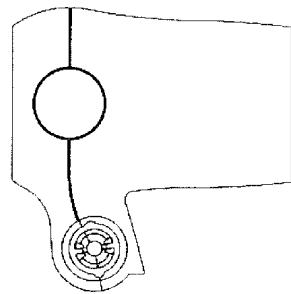

Figure 6
6. Assemble back housing and front housing, then Install swivel ring into the housing as shown in Figure 6.